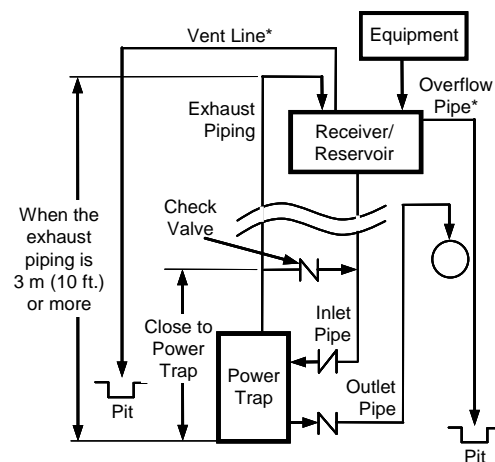

Figure 2: Open & Closed Systems
- For Open and Closed Systems:** Add piping connecting the exhaust pipe to the pumped medium inlet pipe between the reservoir and the strainer, being sure to install a check valve on the piping to prevent backflow of condensate from the pumped medium inlet pipe to the exhaust pipe. (Figure 2)